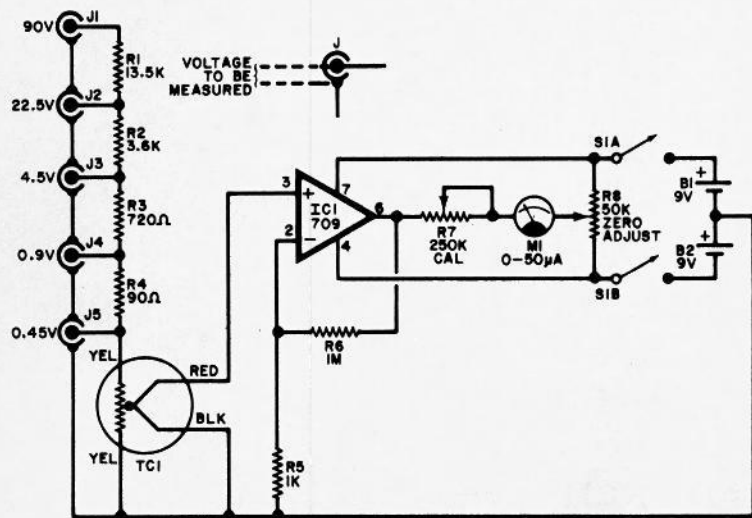

Fig. 2. Schematic of the voltmeter. Select and combine resistors to obtain proper values as given in Parts List.
**How It Works.** As shown in Fig. 2,  $R1$  through  $R4$  make up a voltage divider, with values selected to limit the voltage across  $TC1$ , the thermal converter, to 0.45 V. The dc output of  $TC1$  is connected to the noninverting input of operational amplifier  $IC1$ , which is connected as a dc amplifier. Resistors  $R5$  and  $R6$  determine the gain of  $IC1$ , whose output drives  $M1$  a 50- $\mu$ A meter. Potentiometer  $R7$  is used to calibrate the circuit and the meter, while  $R8$  is adjusted to set the zero point of the meter movement.